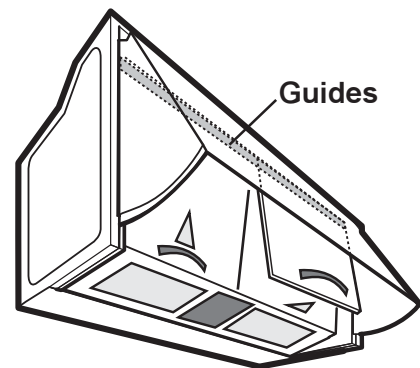

Fig. 5b - EFI 640
- First pull the handles upwards, then extract the filters outwards. **Fig. 5b**.
To refit: they should be inserted above between the appropriate guides until it latches into place, and after having attached the grille to the cooker hood also in the lower part. **Fig. 5b**.